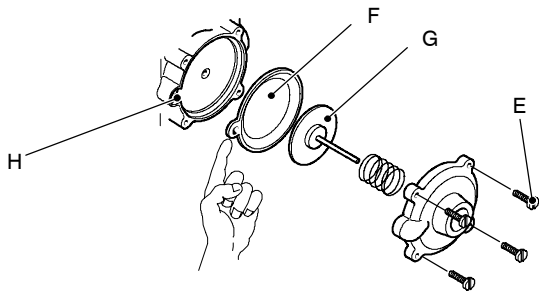

Fig. 62
- 3 Unscrew the four screws E (see Fig. 62) open the hydraulic operator and remove the membrane F.
When assembling the membrane, ensure that its concave side faces towards the actuator plate G and the reference indicated aligns with the seat H (see Fig. 62).